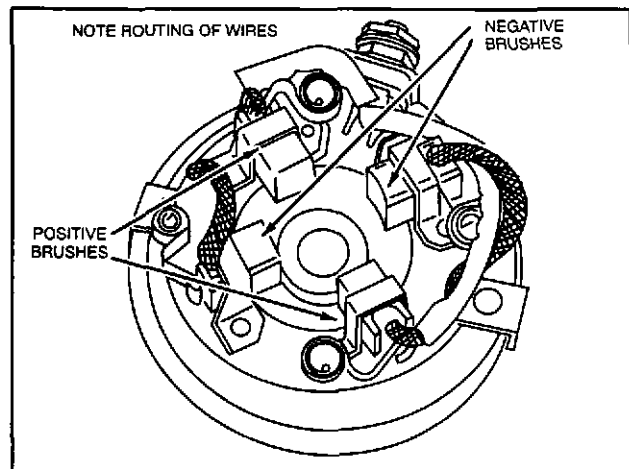
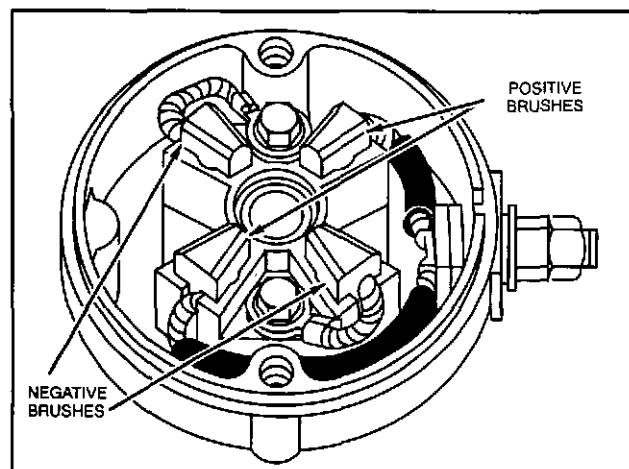

Fig. 21 - Location of Brushes
Fig. 22 - Location of Brushes
Two different style brush end caps are used. Refer to Fig. 21, and Fig. 22 for correct location of brushes and brush leads.
4. Meter must indicate continuity between terminals with keyswitch in position shown. See number sequence of terminals shown in Fig. 21.